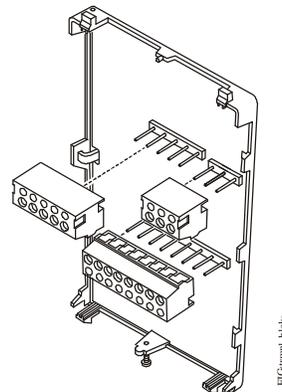

Figure 4: Removing the Screw Terminal Blocks
- Remove the screw terminal blocks that are attached to a disposable adhesive. Figure 4 illustrates the locations of the screw terminal blocks on the controller.